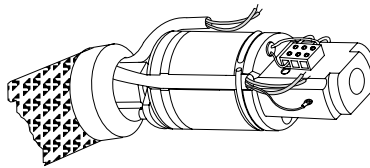

Figure 5 Secure the Wires with the Retaining Clip
4. See Figure 5. Rotate the wire retaining clip around the pivot sleeve so that the clip's opening aligns with one of the grooves on the pivot sleeve.